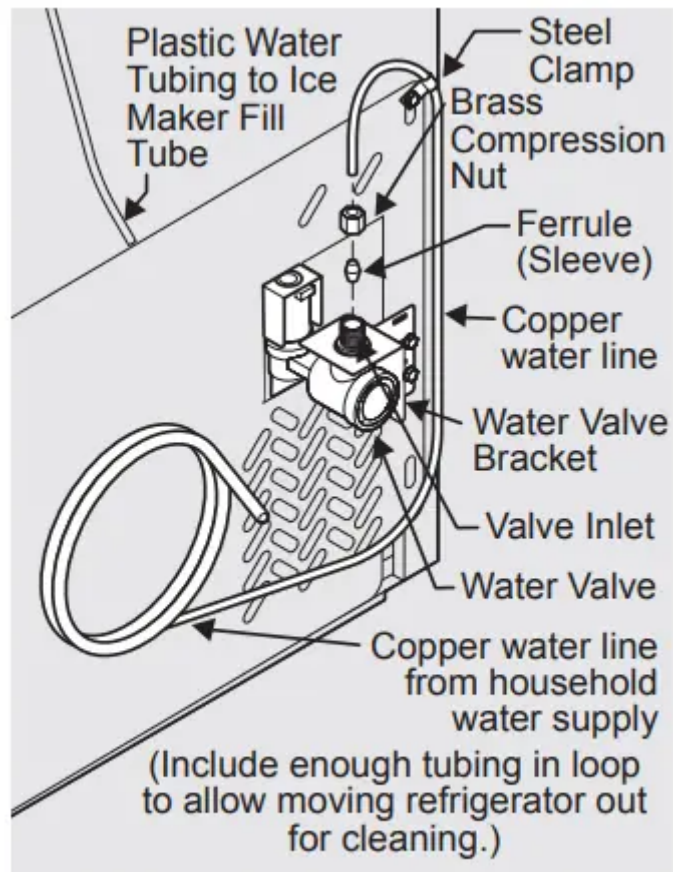
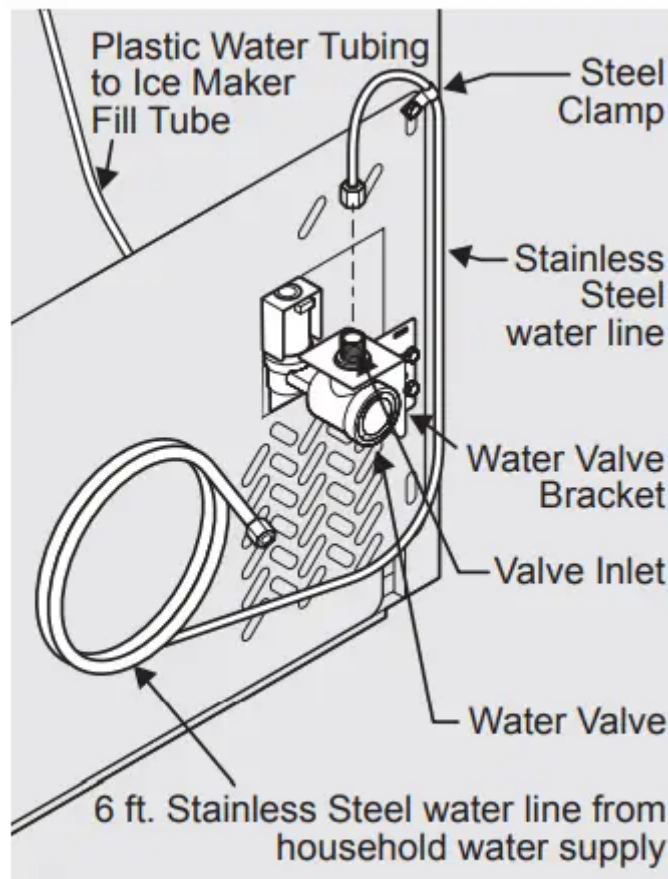

Figure 1
Figure 2
4. If you use copper tubing - Slide brass compression nut, then ferrule (sleeve) onto water supply line. Push water supply line into water valve inlet as far as it will go ($\frac{1}{4}$ inch/6.4 mm). Slide ferrule (sleeve) into valve inlet and finger tighten compression nut onto valve. Tighten another half turn with a wrench; DO NOT over tighten. See Figure 1. If you use stainless steel tubing - The nut and ferrule are already assembled on the tubing. Slide compression nut onto valve inlet and finger tighten compression nut onto valve. Tighten another half turn with a wrench; DO NOT over tighten. See Figure 2.